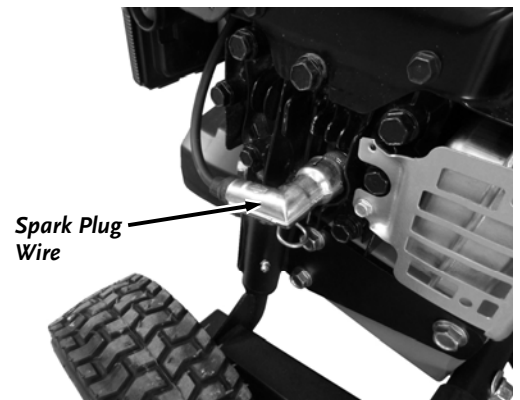

Figure 18
1. Install the Spark Plug Wire onto the Spark Plug (**Figure 18**).